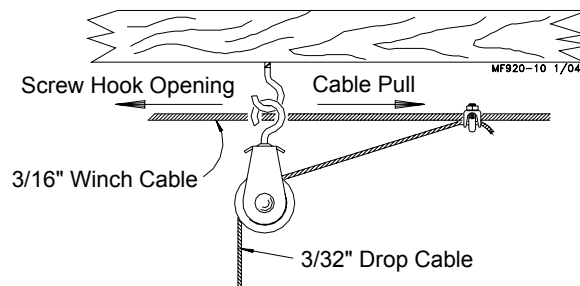

Figure 6. Screw Hook Installation
Screw the hook into the truss the full length of the threads to prevent bending. The openings of the screw hooks must be pointed away from the direction of travel when the Power Winch raises the feeder line, **see figure 6.**
2. Thread the end of the 3/32" cable through the pulley toward the winch. Clamp this end to the 3/16" winch cable about 6" (150 mm) from the pulley, using a 3/16" cable clamp, **see figure 6**.